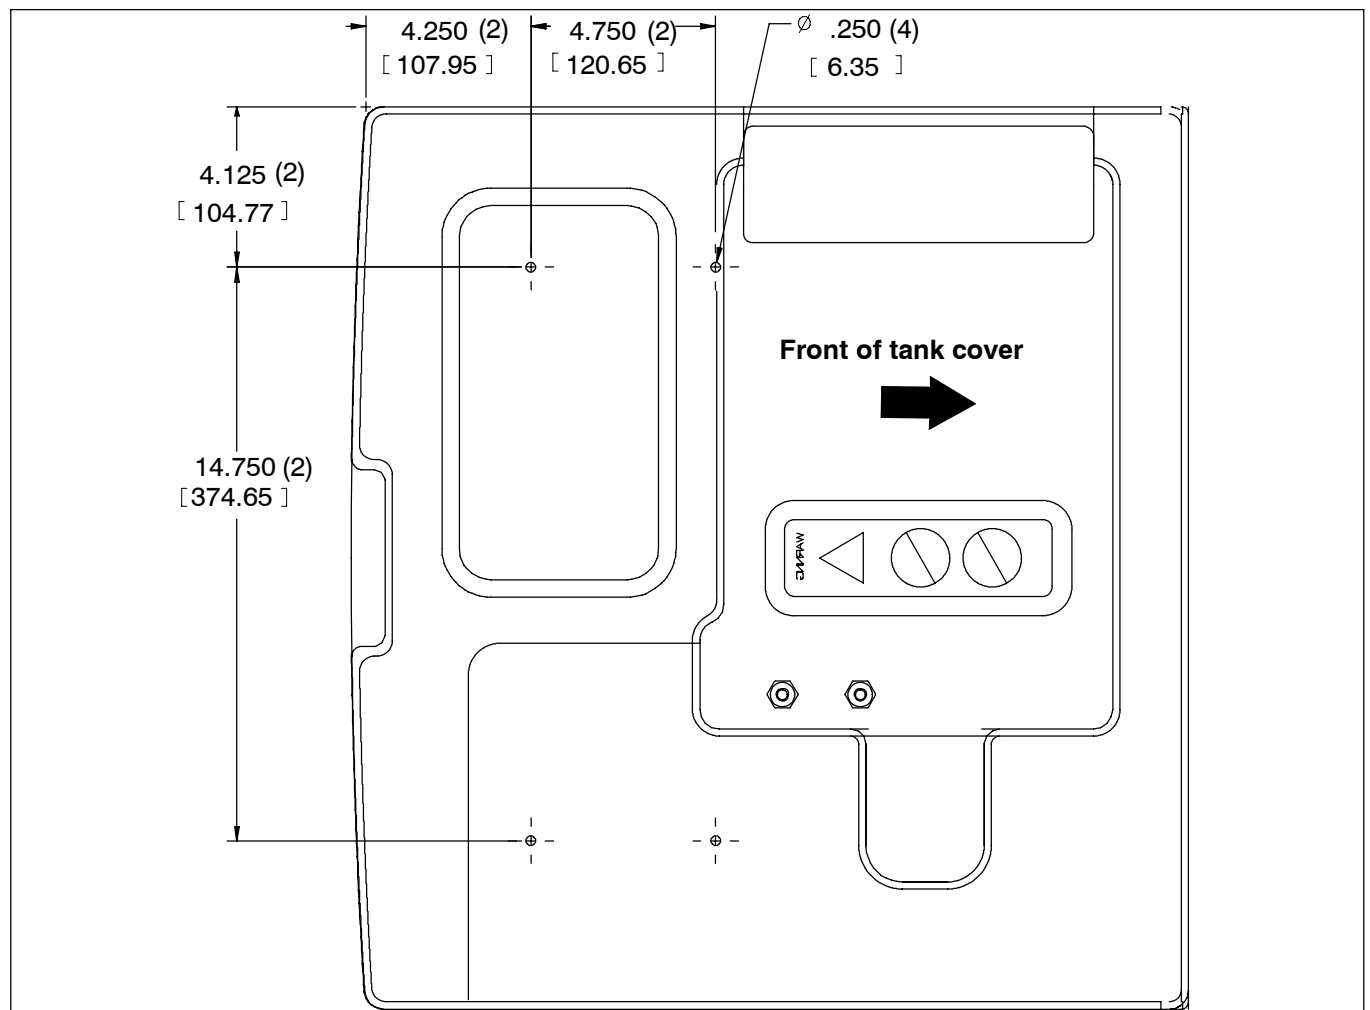

FIG. 2-Hose Bag Mounting Hole Dimensions
5. Use the hole dimensions in Fig. 2 to mark and drill the power wand bag (6) mount holes in the top of the tank cover. Refer to Fig. 2.